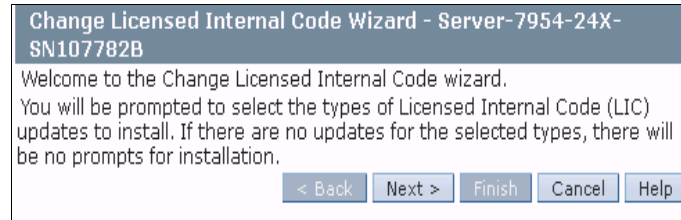

Figure 7-125 Change Licensed Internal Code wizard code validation
- The Change Licensed Internal Code wizard continues with an information window, as shown in Figure 7-125. Click **Next** to continue. The FTP server is accessed and a determination is made if a valid update exists in the specified server and location.